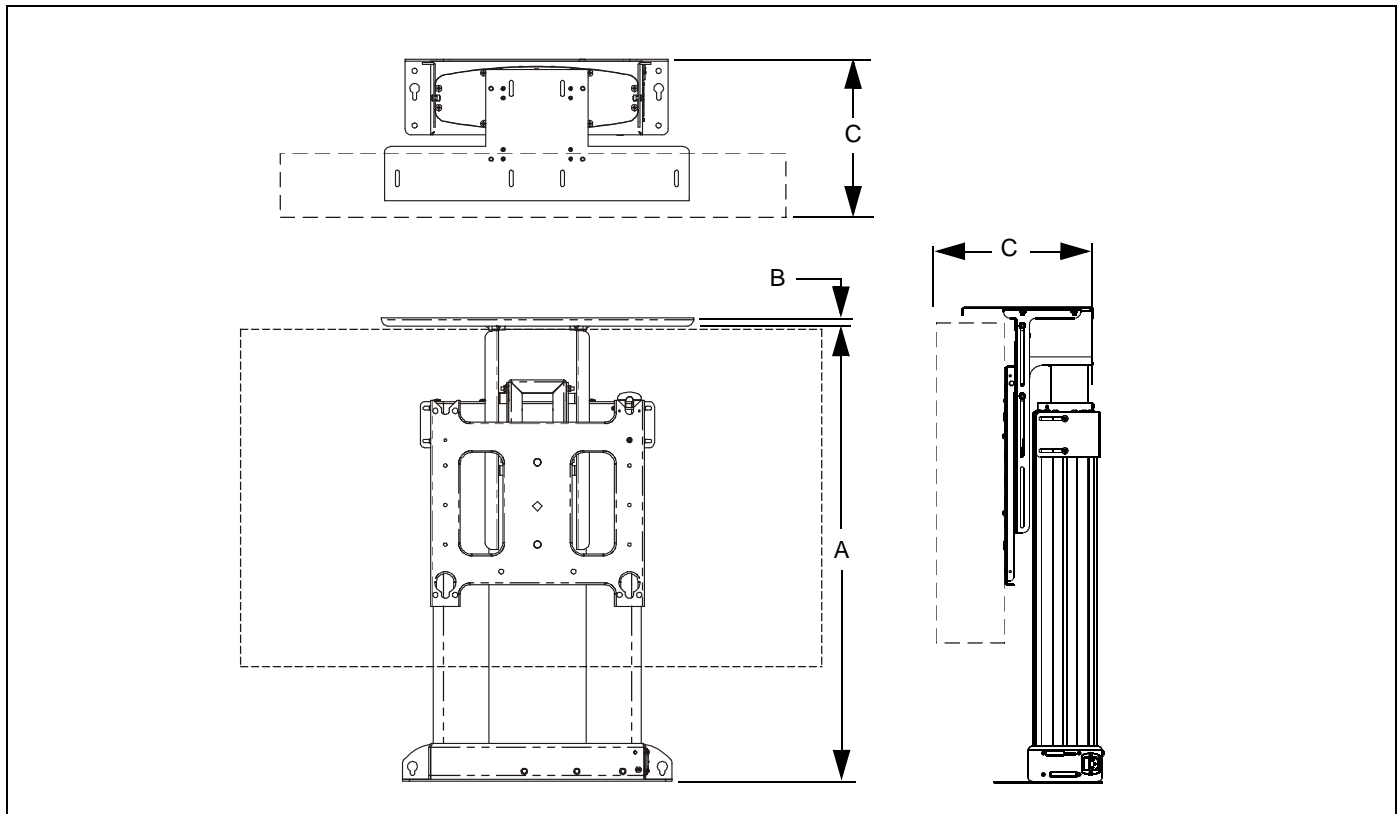

Figure 16
1. Measure and record distance "A". (See Figure 16)
2. Measure and record distance "B". This is the material thickness of the cover that will be mounted to the CM2. (See Figure 16)
4. Measure and record distance "C". This dimension is from the back side of the CM2 vertical mounting bracket to the furthest point forward on the display. (See Figure 16)